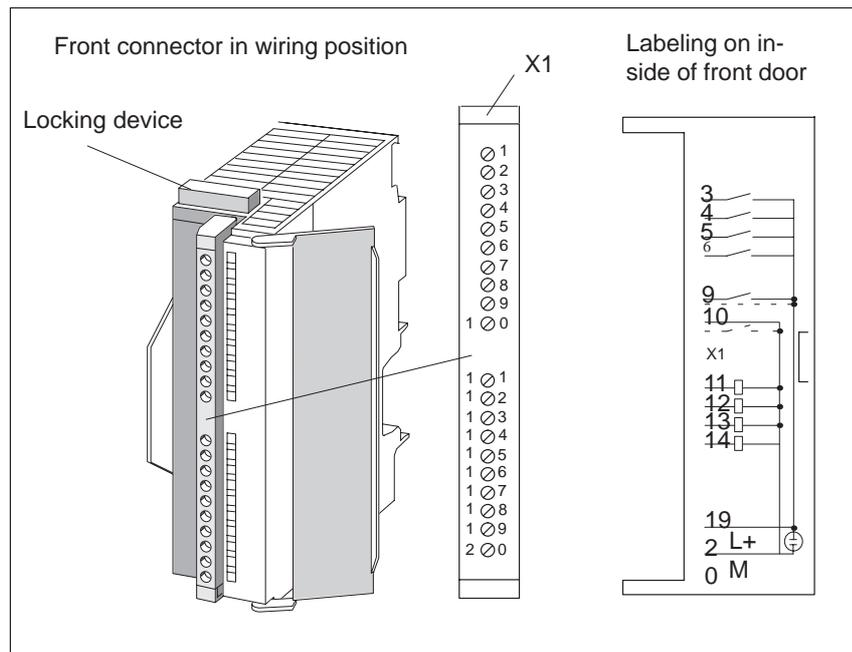

Fig. 4-6 Location of X1 connector
**Location of connector** Figure 4-6 shows the front connector in position to be wired, and the labeling on the inside of the front door.